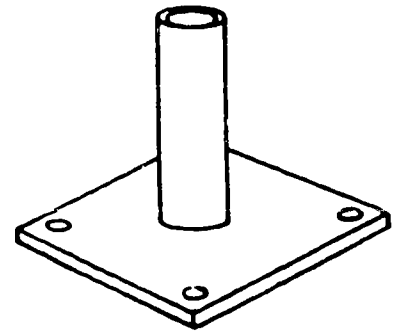
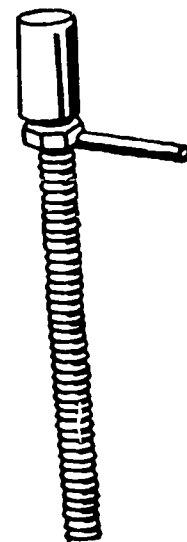
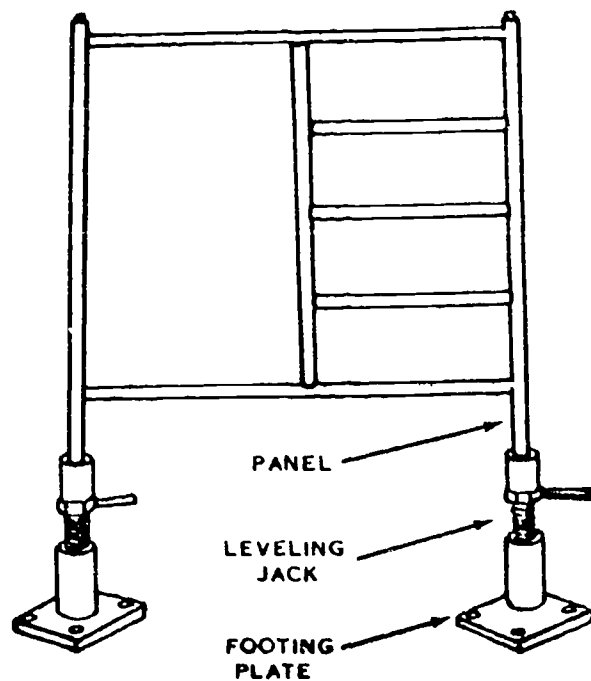
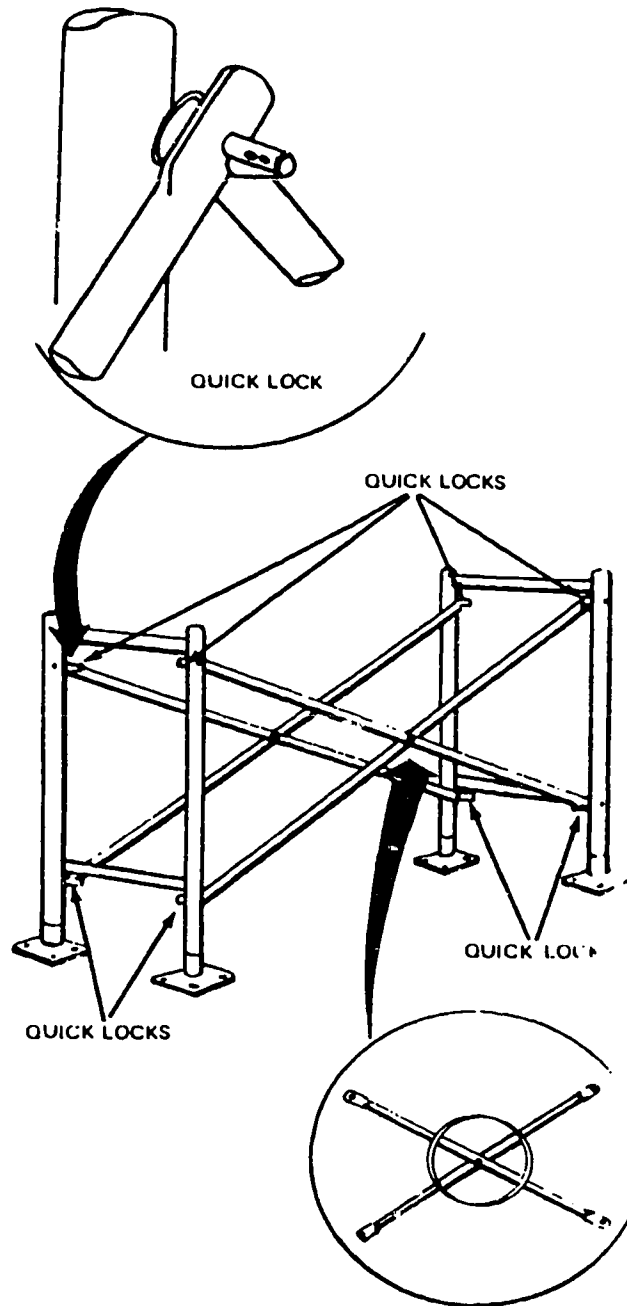

Figure 46. Scaffold Footing Plate
Figure 47. Leveling Jack
Figure 48. Install Leveling Jacks and Panels into Footing Plates
Figure 49. Installing Braces
The sectional steel scaffold is erected by taking the following steps: (1) set the footing plates, as shown in figure 46 on firm even ground or on a board to support the weight of the scaffold, (2) insert a leveling jack, as shown in figure 47, into each footing plate, (3) install two panels into the leveling jacks which were installed into the footing plates, as shown in figure 48, (4) have helpers steady the panels while you attach "X" type pivoted braces, as shown in figure 49.